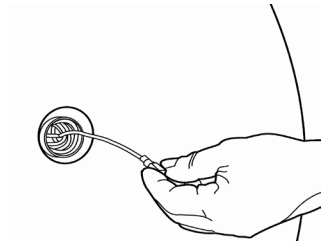

Figure 16
2. Pull out the grey sensor wire from Blower Outlet (Figure 16).